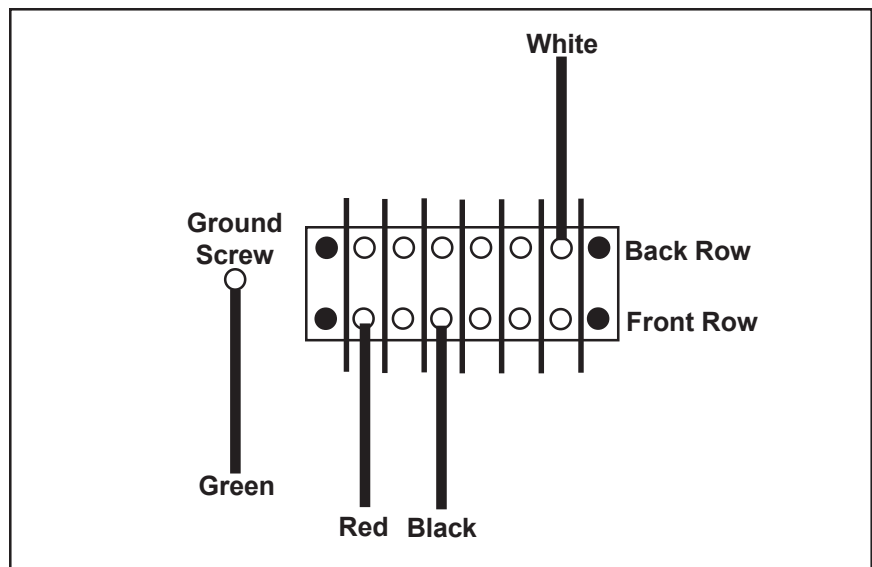

Figure 53. Foot Controller Wire Connections
2. Connect the four wires to the terminal strip as shown in Figure 53.